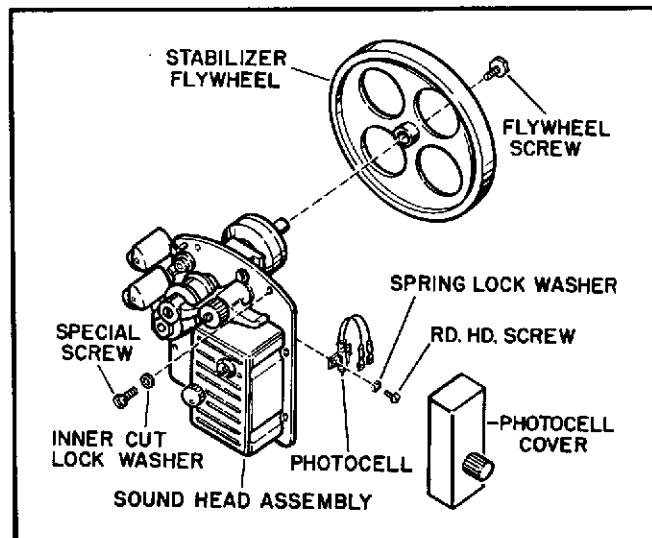

Figure 4-7. Photocell Replacement
- Remove flywheel screw (figure 4-7) and pull the